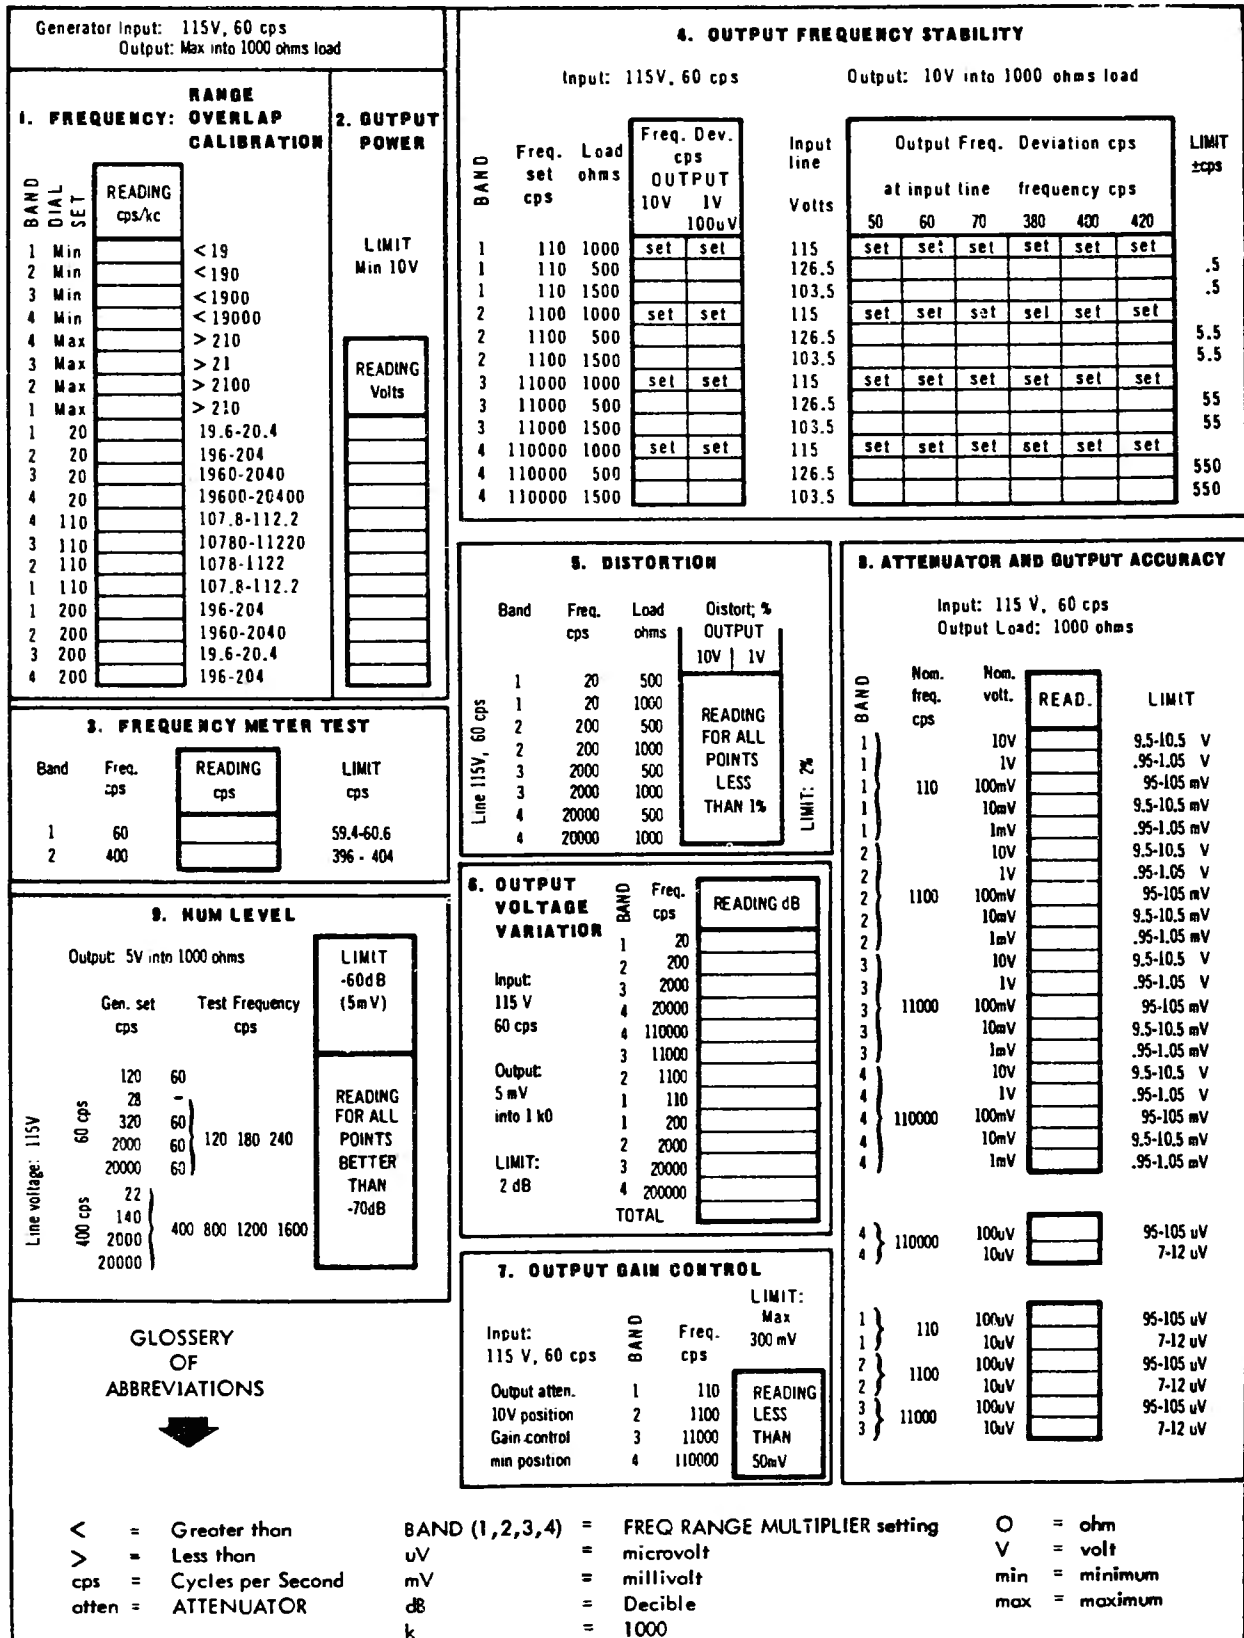

Figure 9-1. Performance Test Requirements
- a. Figure 9-1 contains the standard factory calibration and test sheet used for initial standards.
- c. Test sequences 1 and 8, figure 9-1 should be performed monthly using an oscilloscope to check wave form, excepting that the 100uV and 10uV portions at 110,000 cps may be deleted if a 100:1 output signal amplifier is not available. The signal is too weak for normal amplifiers. If Amplifier Part No. AM348 is available, these tests can be satisfactorily performed.